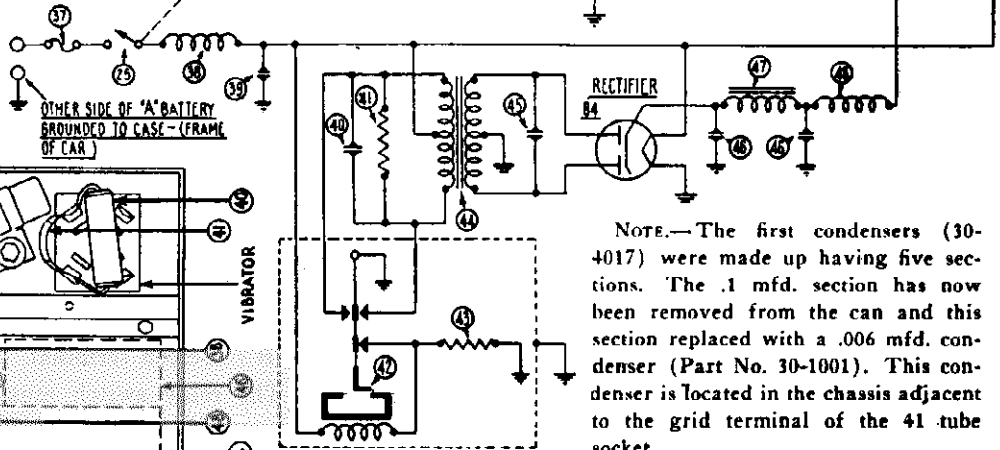

Fig. 1
① on Figs. 1 and 2
Ⓞ on Figs. 1 and 2